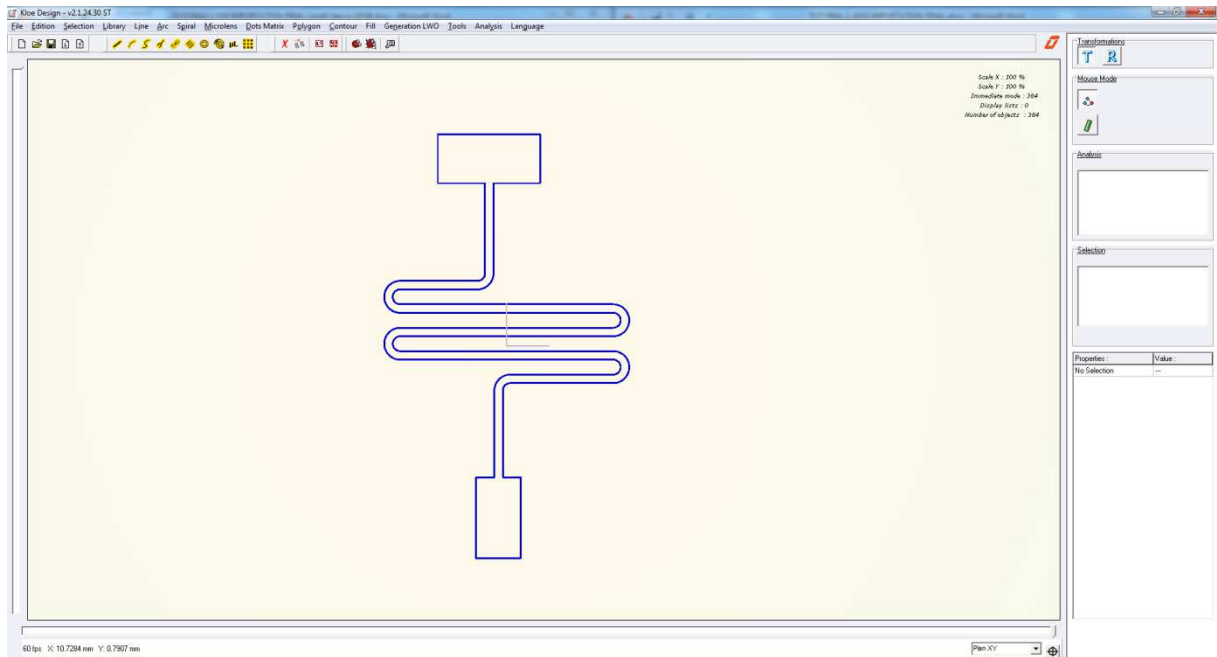

Fig 4 : Dxf pattern displayed after importation.
- Then the dxf pattern appears, exactly as the file has been designed, with all the lines created in this pattern (Fig 4).